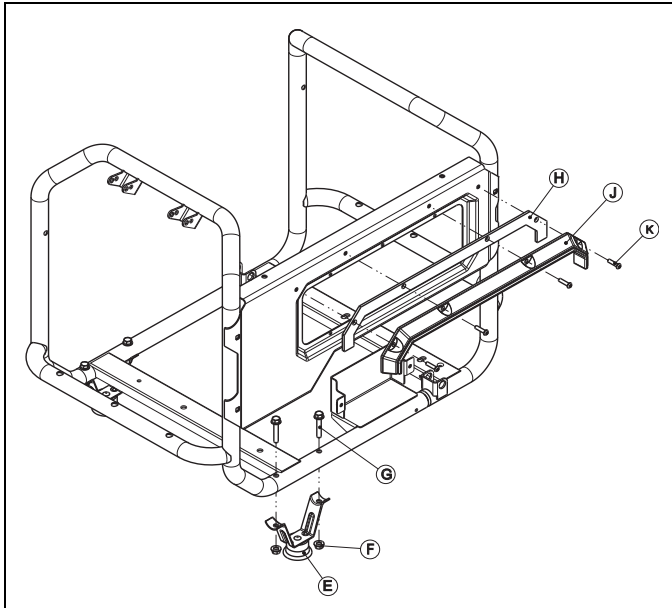

Figure 2-2. Control Guard and Frame Foot Assemblies
2. Install the Frame Foot Assemblies as shown (Figure 2-2).
3. Install the Gasket and Control Guard (Figure 2-2).